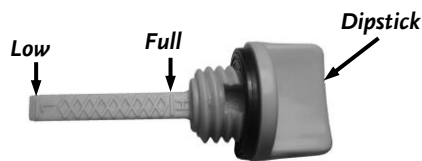

Figure 8
2. Continue adding a few ounces of oil at a time, until the oil reaches the Full line on the Dipstick (**Figure 8**). Be careful not to overfill.